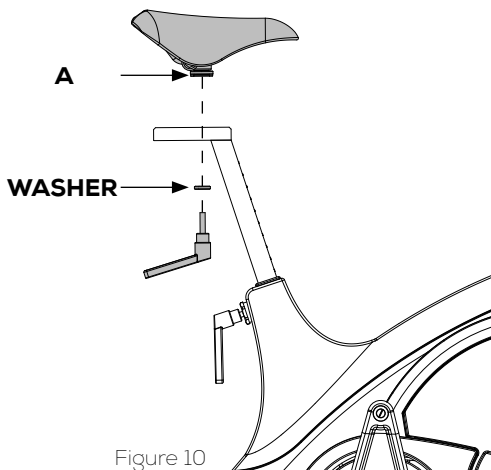

Figure 10
- 2) Secure the saddle with the remaining adjustment handle, see figure 10.
To fasten the saddle to the adaptor and adjust the tilt of the saddle, use a 14 mm wrench on the bolt marked with an A on figure 10.